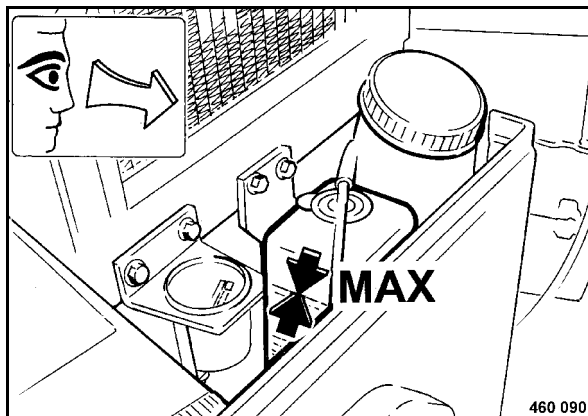

Fig. 82
- Check the coolant level (Fig. 82).